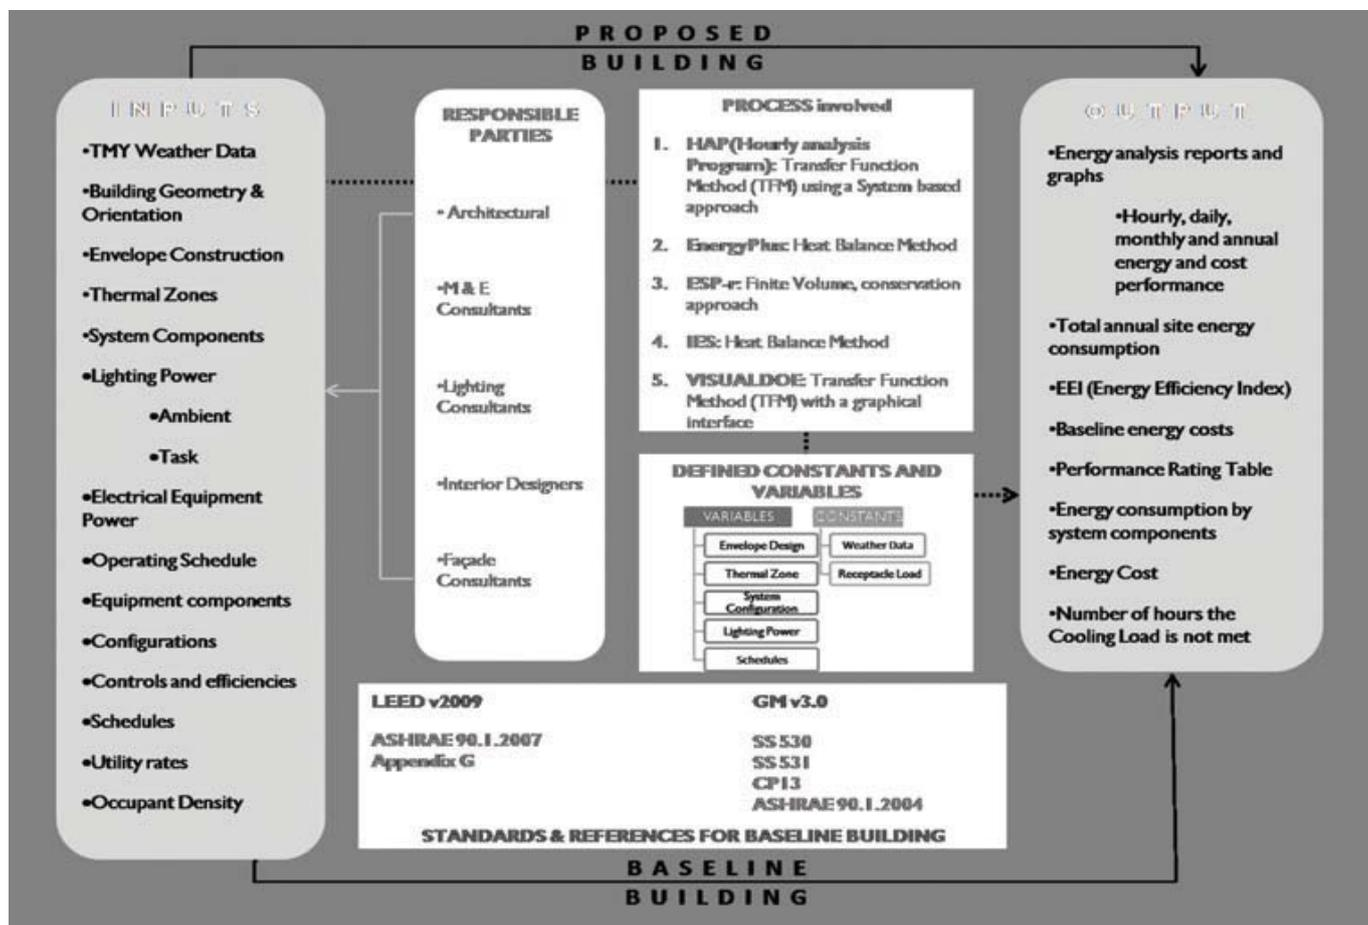

Figure 2: Typical energy modelling framework for Green Mark projects (Uma Maheswaran et al, 2009).
- A typical Green Mark energy modelling exercise involves a complex routine of steps (Figure 2) and two different scenarios are required to be simulated - a base case (which is created automatically by the software) and modelled in compliance with minimum local standards, and a proposed case which is modelled as close as possible to the actual design (the proposed case is created automatically from the actual design entered by the user).